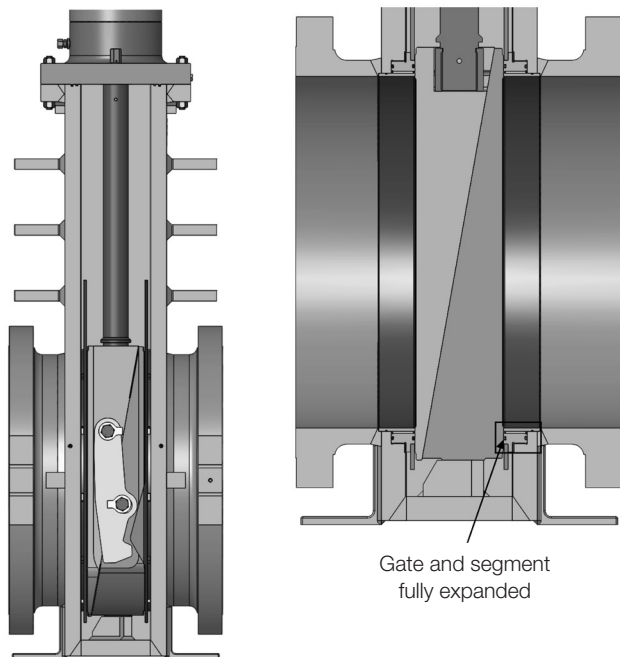

Figure 2a: CEGV sealing mechanism in fully closed position
- At the closed position **Figure 2a**, a stop in the body stops motion of the segment, while the stem continues to drive the gate downward. This relative motion causes the gate and segment to expand outward against the seats.